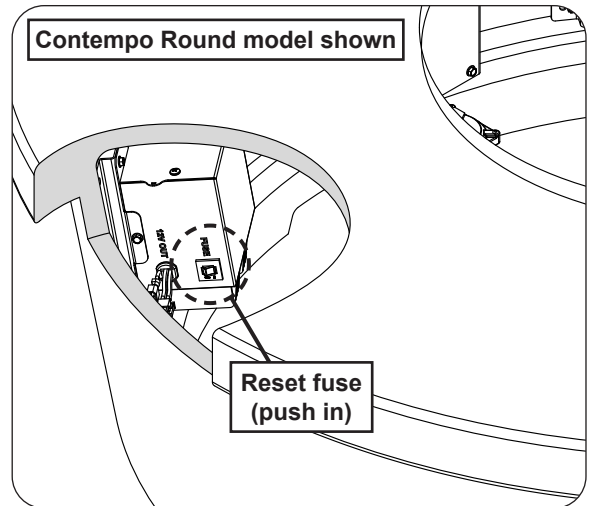

Fig. 42-2 Reset fuse
2. Gain access to the valve box and reset the fuse by pushing it in (see Fig. 42-2).